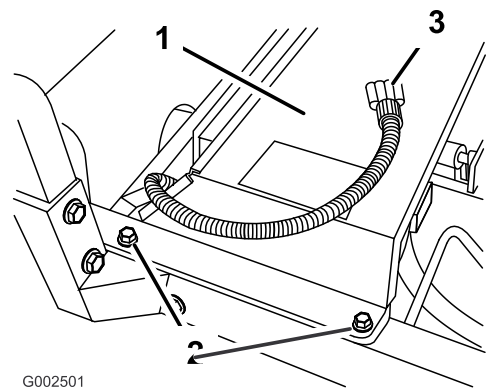

Figure 18
2. Install the radiator cover assembly over the vehicle's radiator (Figure 18).